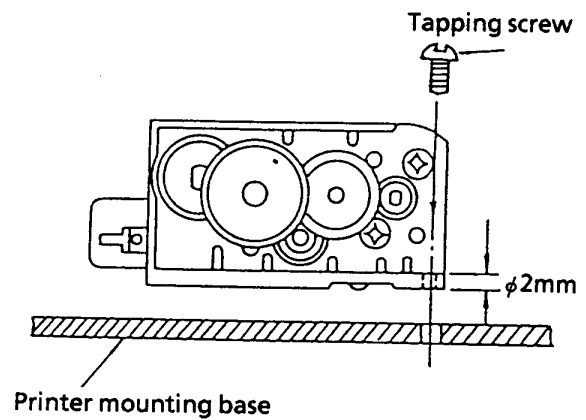

Figure 8-5 Mounting with Screws (MTP201 and 401 Printer)
- ① When mounting with screws With the $\phi 2.2$ mm holes at the corners of the printer as a reference for positioning, fix the printer on the printer base by tightening the tapping screws from the top of the printer (see Figure 8-5).